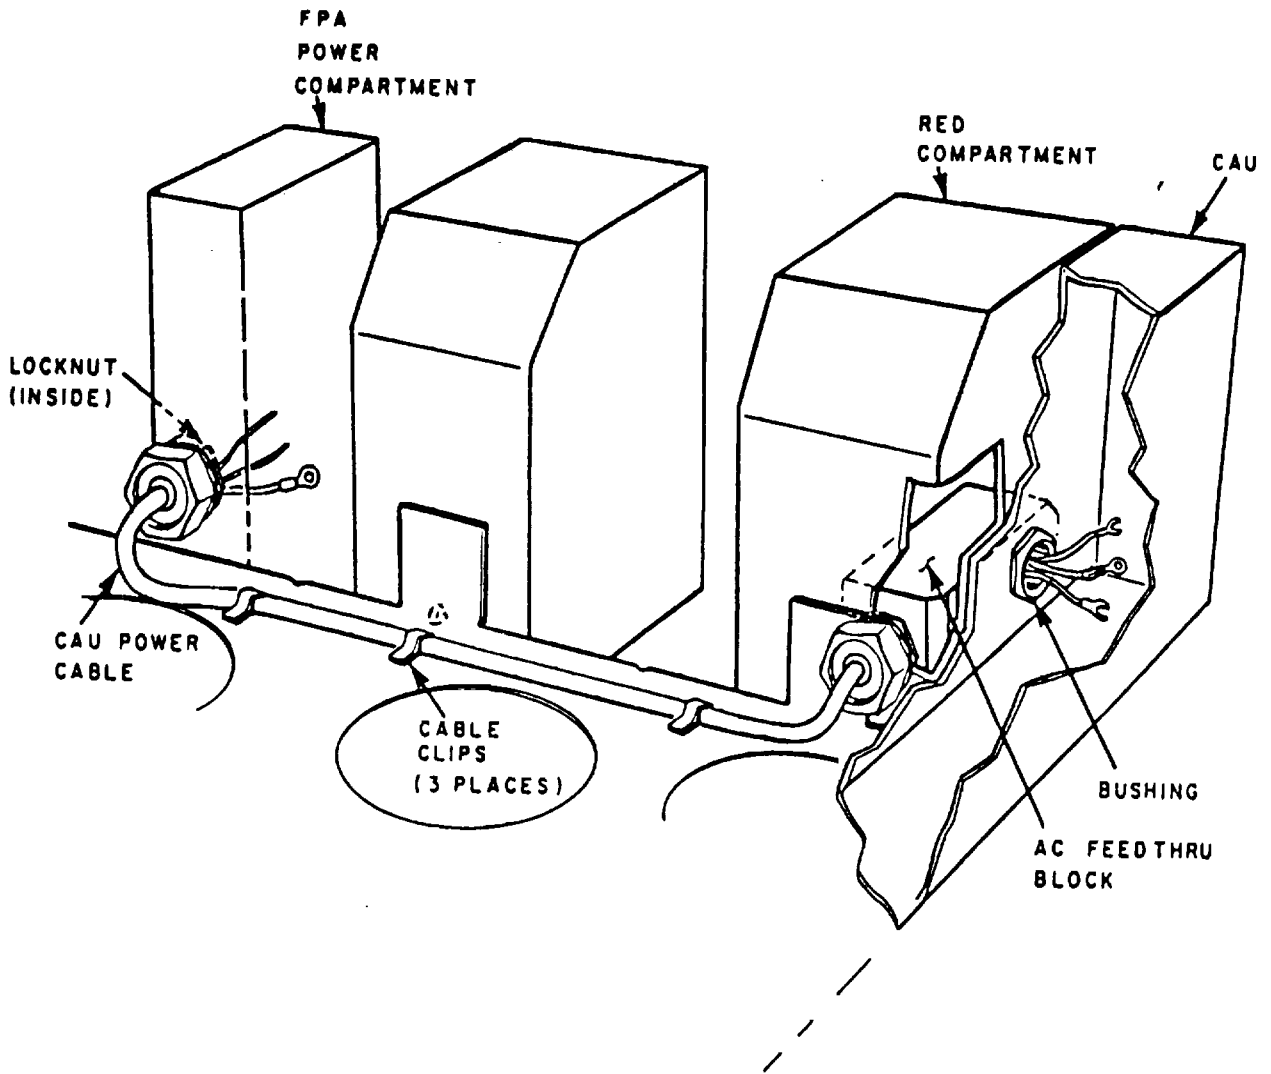

Figure 5-6. FPA/CAU Power Cable Installation Diagram
- a. Select the AC feedthru block (part number 62070643-000) from the installation kit and position in RED compartment as shown in Figure 5-6. Remove the AC terminal block bracket by removing screws on bottom of CAU. Refer to Figures 5-3 and 5-7.